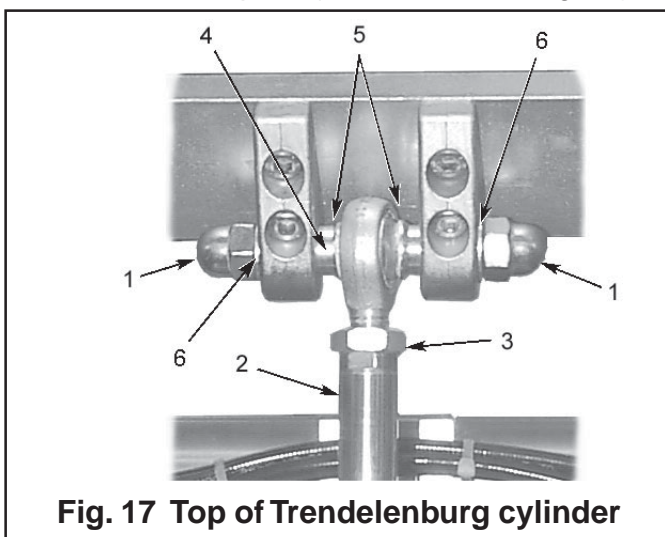

Fig. 17 Top of Trendelenburg cylinder
- x Remove the two dome headed nuts (item 1, Fig. 17) and plain washers from the Trendelenburg cylinder pivot pin on the underside of the long trunk assembly. Remove the pivot pin (item 4, Fig. 17) and disconnect the Trendelenburg cylinder ram from the long trunk assembly. Collect the two spacers (item 5, Fig.17) which are fitted on the pivot pin.
- iii Attach the eye-end of the Trendelenburg cylinder to the pivot plates on the cross member of the long trunk assembly as follows (refer to Fig.17 and Fig. 19 as required) :